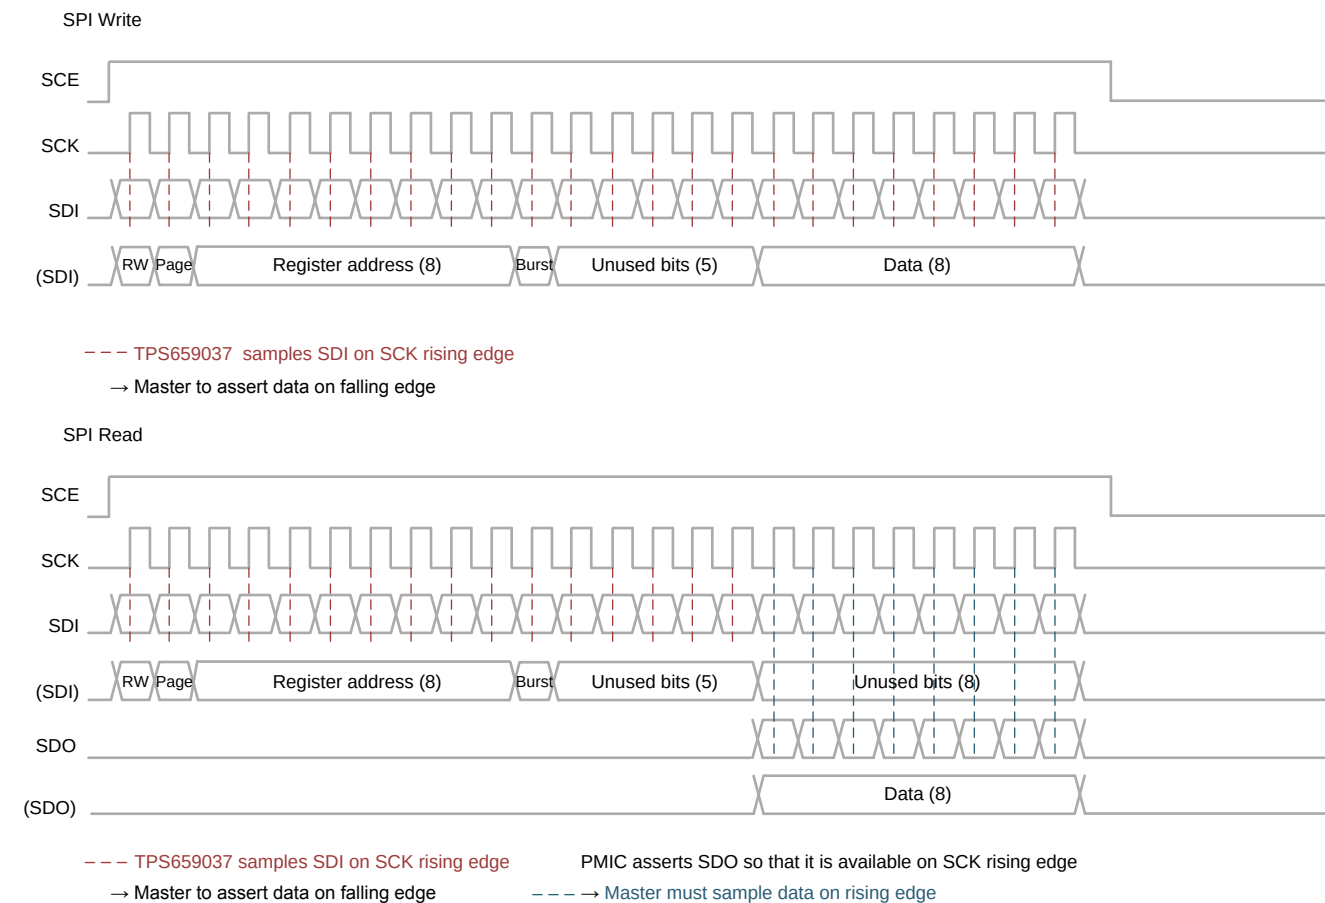

**Figure 5-15. SPI Single Read and Write Access**
- This consists of fetching and storing one single data location. The protocol is depicted in Figure 5-15.